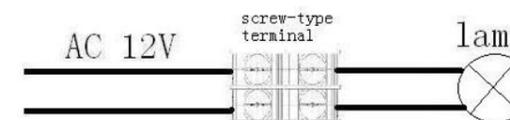

Figure 0.
- c) Terminal blocks must meet the IEC60988-2-1 standard having the rated connecting capacity of 4,0mm² use of screw-type terminal at least 25A rated current, mounted on junction boxes inside. See Figure 0